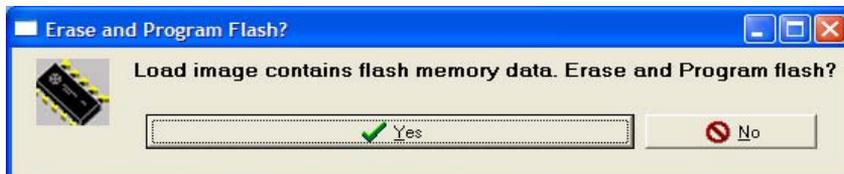

Figure 25. Erase and Program Flash memory
8. As shown in Figure 25, click on the Yes button to erase and program the flash memory on the board.